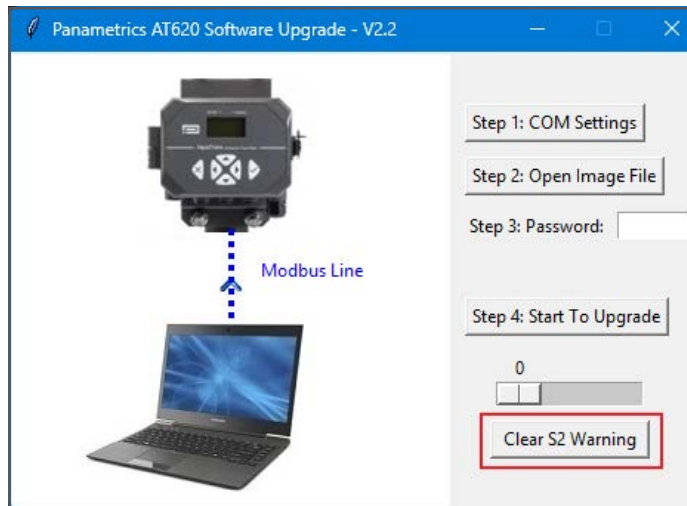

Figure 41: Clearing an S2 Warning
1. In the update software, click on the com port button and select the specific port that was used for the update (see top red box in *Figure 41* below).
2. Click on the clear S2 warning button (see bottom red box in *Figure 41* below).